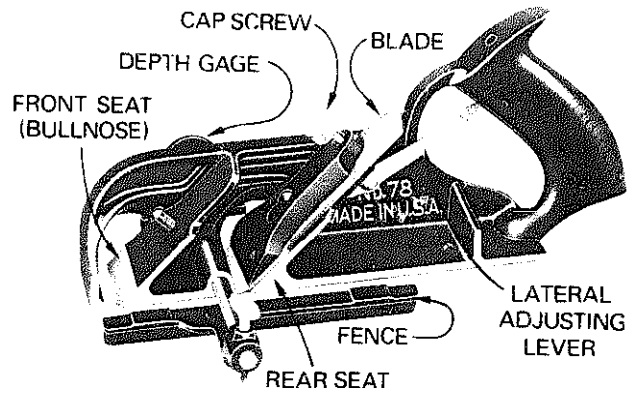

Fig. 8-63 Rabbet plane
- The *rabbet plane* cuts a rectangular recess on the edges or ends of boards. See figures 8-63, 8-64, 8-65 and 8-66.